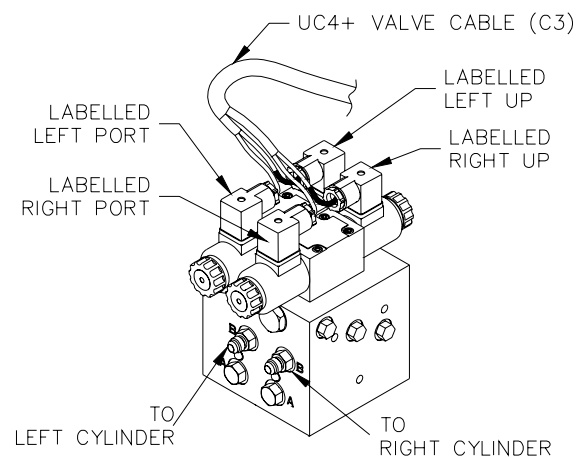

Figure 23 – Valve Cable Connections
14. As shown in Figure 23, the connectors on C03 are marked **RIGHT UP**, **LEFT UP**, **RIGHT PORT** and **LEFT PORT**. Cables labeled with **PORT** go on the side as the hydraulic hoses. Fasten with the included rubber seals and screws.